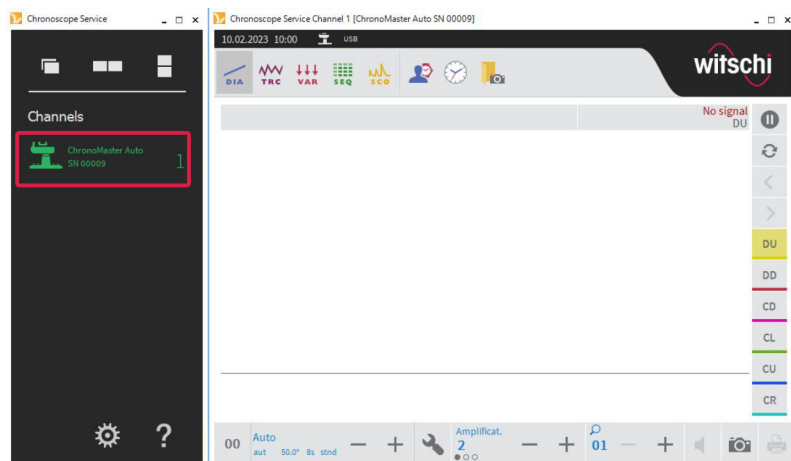

Fig. 7: Identification of the device by the display software
- The device is identified by the display software and is listed there (Fig. 7).